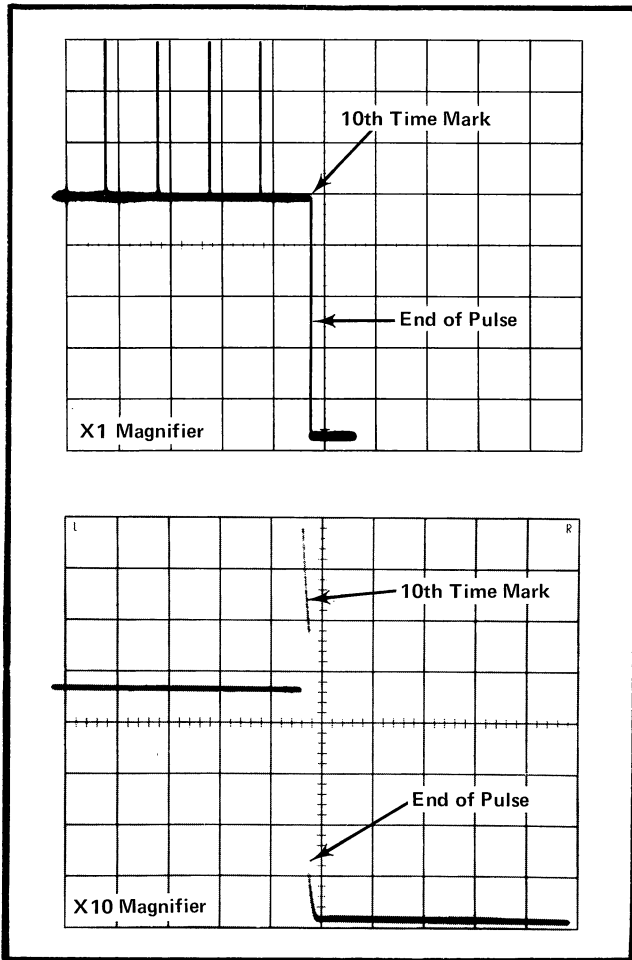

Fig. 5-5. Typical display of Output Pulse and Time Marks for adjusting Pulse Duration X10.
a. Display the pulse and time marks as shown in Fig. 5-5.